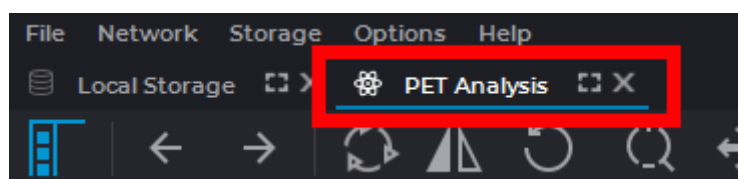

Figure 8.2: PET analysis tab button
- Holding down the left mouse button, drag the series to the PET analysis tab (surrounded by the red frame in Fig. 8.2). Do not release the button. The PET analysis tab is displayed above other tabs.